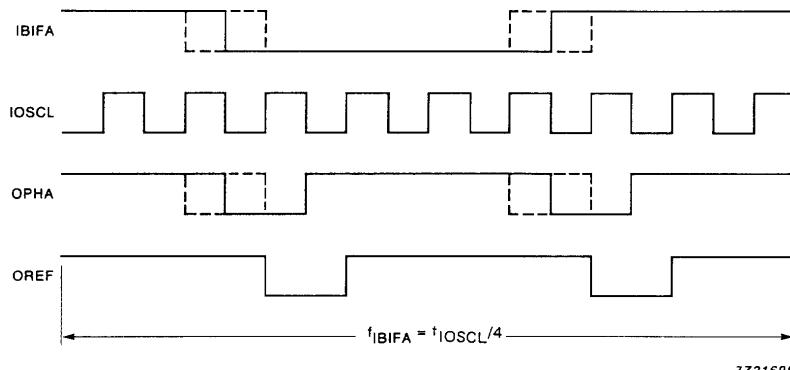
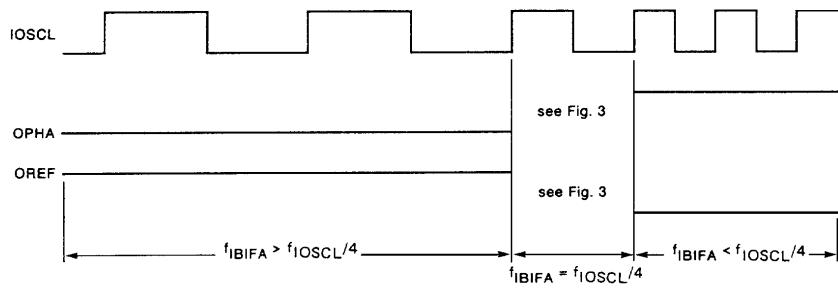

Fig.3 Generation of phase output signal (OPHA) and phase reference signal (OREF); $f_{IBIFA} = f_{IOSCI}/4$.
Fig.4 Generation of phase output signal (OPHA) and phase reference signal (OREF): $f_{\text{REF}} = f_{\text{osc}}/4$.
- Generates a phase output signal (OPHA) and a phase reference signal (OREF). If the frequency of the biphase input signal (IBIFA) equals 1/4 of the system clock frequency (fioscl/4) then the IC generates OPHA and OREF as shown in Fig.3. If the frequency of the biphase input signal (IBIFA) is greater or less than 1/4 of the system clock frequency then the IC generates OPHA and OREF as shown in Fig.4.